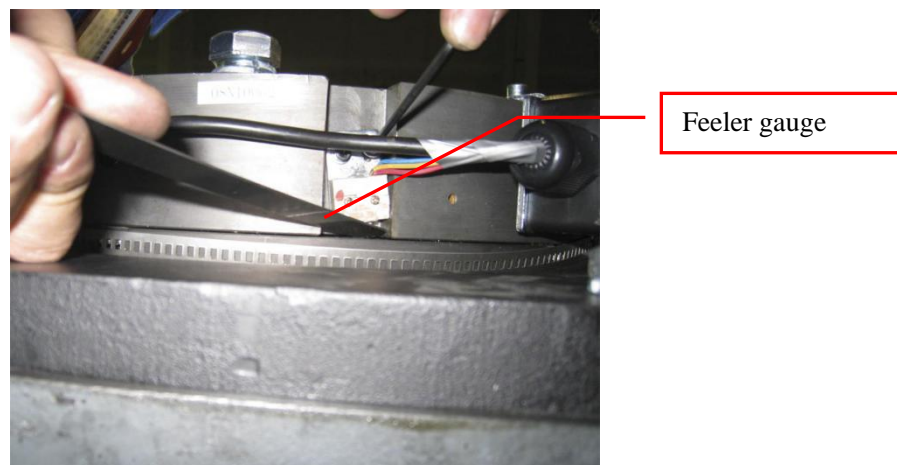

Figure 31: Brake Switch Adjustment
1. Use a multi-meter to make sure the new switch is functional by inserting feeler gauges between the brake plate and switch. The switch should not be activated when inserting a 0.1mm (0.004”) feeler gauge and should be activated when inserting a 0.2mm (0.008”) feeler gauge. Otherwise the brake switch bracket position must be readjusted. See Figure 31.